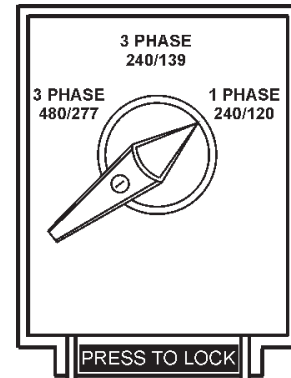

Figure 30. Voltage Selector Switch 240/120V Single-Phase Position
1. Place the voltage selector switch in the 1Ø 240/120 position as shown in Figure 30.